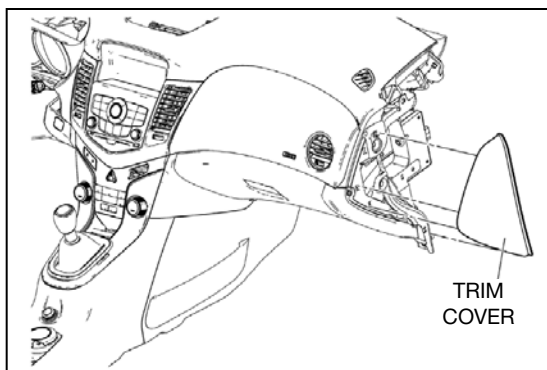

Fig. 9
3. Remove instrument panel passenger side outer trim cover (see Fig. 9).